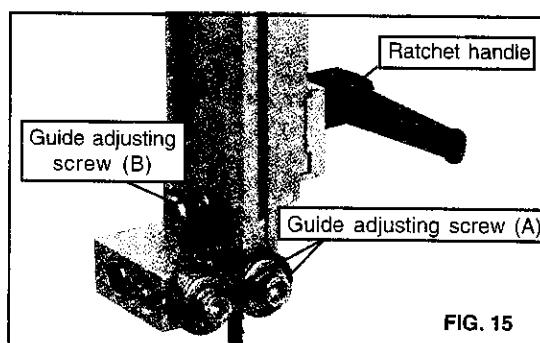

FIG. 15
- a. To adjust the upper blade guides, first position the right and left roller guides relative to the blade by slackening the ratchet handle Fig.15 and moving the guide carrier until both roller guides are approximately 1/16" behind the gullets of the saw blade.
- b. Set both roller guides to within 1/32" of the saw blade by releasing the guide adjusting screw (A) Fig. 15 on each side of the saw blade. Do not set the roller guides too close as this will adversely affect the life of the saw blade.
- c. Adjust the rear roller guide to be just clear of the back of the saw blade by unlocking the guide adjusting screw (B) Fig. 15
- d. When the correct adjustment is reached, lock the rear roller guide in position with the guide adjusting screw (B) Fig.15